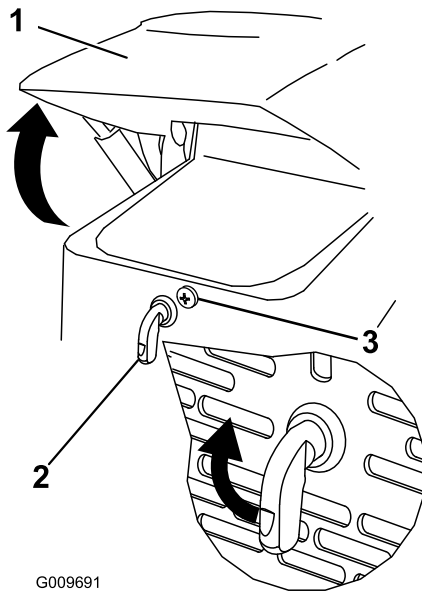

Figure 30
1. Loosen the hood-locking screw (Figure 30)
3. Tighten the hood-locking screw to secure the latch (Figure 30).
2. Turn the hood latch clockwise (Figure 30).
3. Swing the hood up (Figure 30).